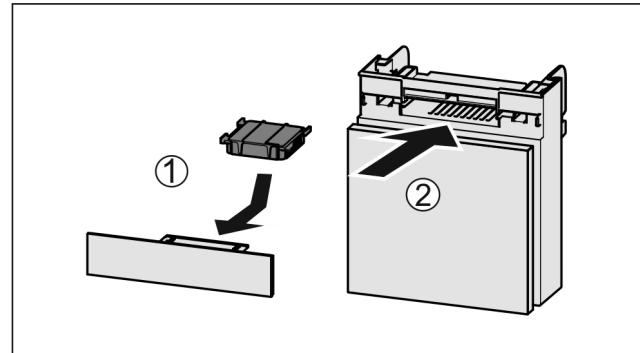

Fig. 72
- ▶ Insert the carbon filter as shown in the diagram *Fig. 72 (1)*.
- ▶ Push the compartment in *Fig. 72 (2)*.